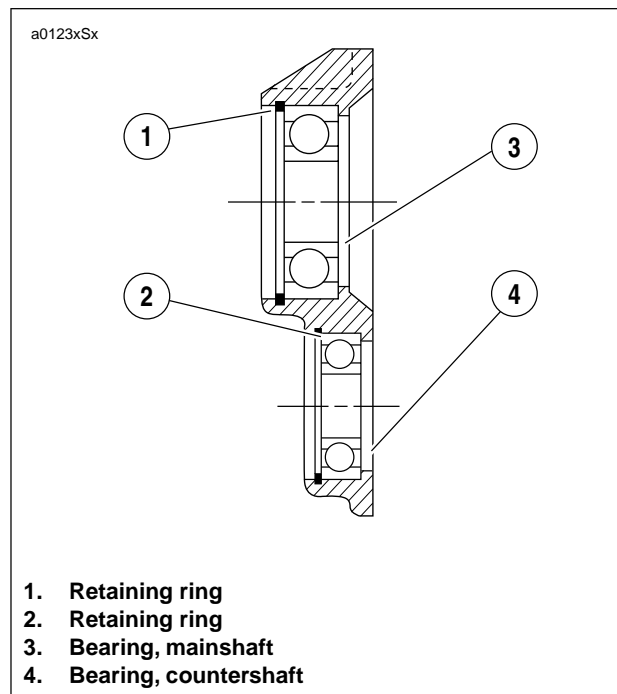

Figure 6-47. Ball Bearing Assembly
5. See Figure 6-47. If bearing replacement is required, remove retaining rings (1, 2). Press out bearings (3, 4) from the inside of the crankcase.